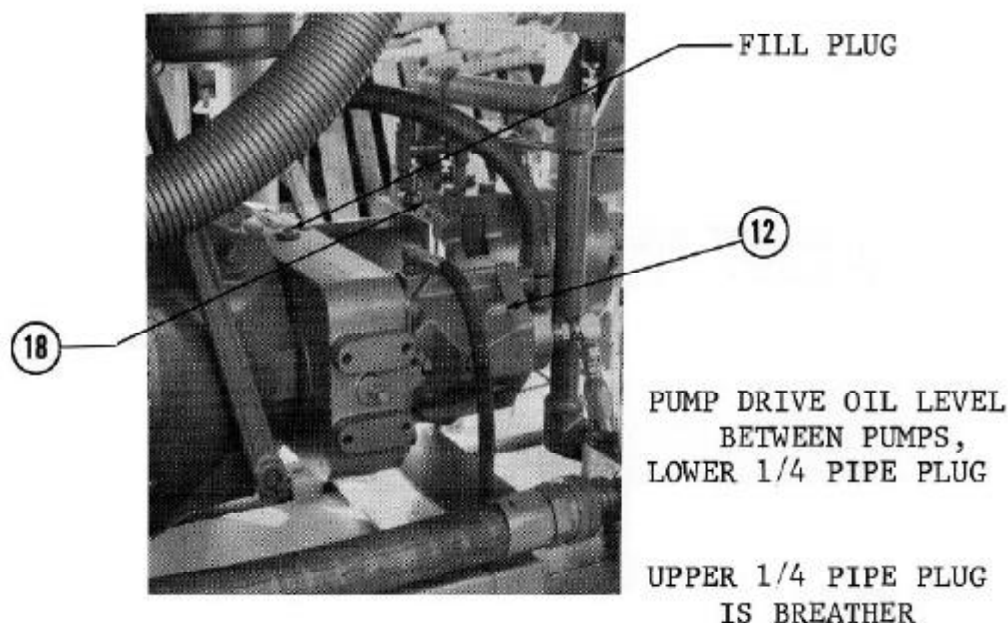

FIG. 9
1. WARNING: DO NOT start any of the pumps, (Boost No. 22, Fig. 14, Clamp No. 12, Fig. 9 and Drive No. 13, Fig. 16) initially or after the pumps have been inoperative for a long time without first checking to be sure the pumps are primed, i.e., the pump cases full of oil. This will prevent starting the pumps without lubrication which can cause pump damage. To check, remove the drain hose and visually determine the case is full of oil.